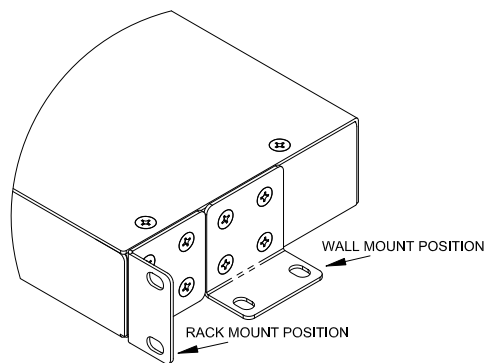

Figure 1.
**Wall:** Secure mounting brackets to the VE8004, then secure the VE8004 to the wall. See Figure 1.
**Rack:** Secure mounting brackets to the VE8004R. See Figure 1. Place the VE8004R into a standard 19" rack and secure to rack with proper hardware (not included).